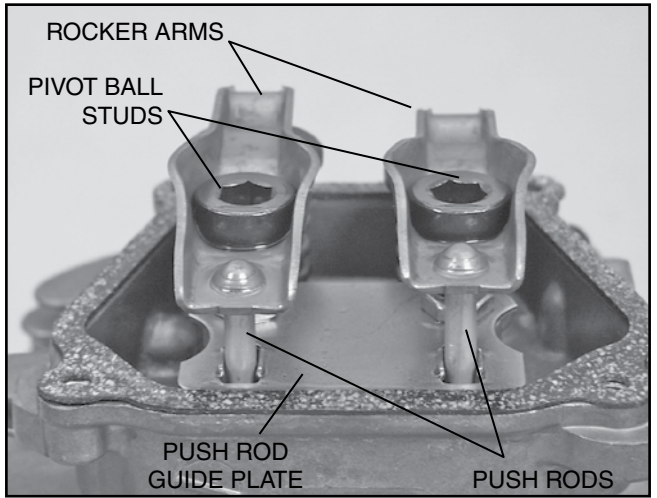

Figure 6-3. Rocker Arms, Pivot Ball Studs, Push Rods and Push Rod Plate
3. Remove the push rods (see Figure 6-3).